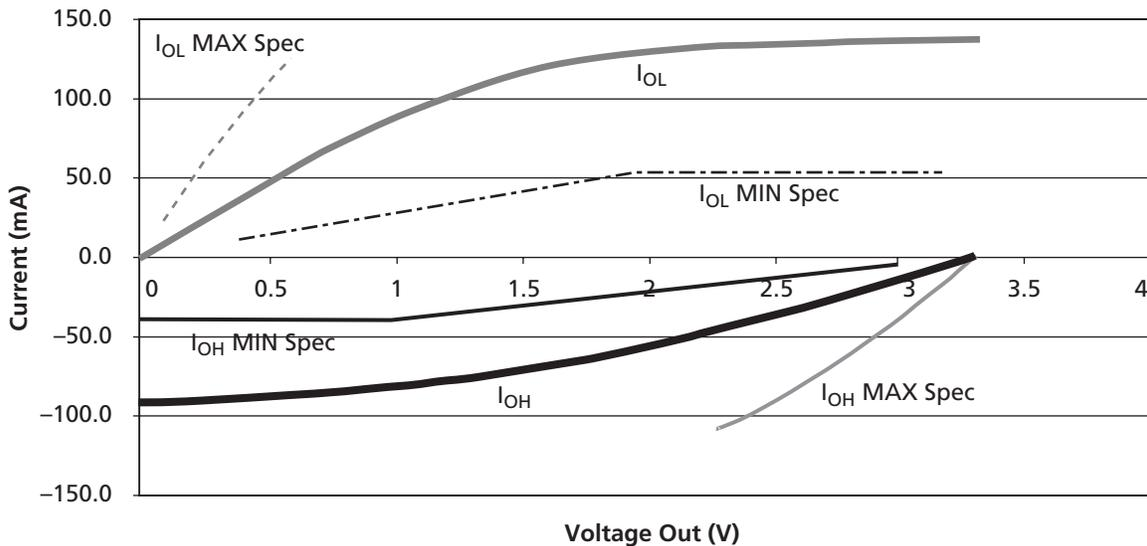

Figure 1-13 • 3.3 V PCI V-I Curve for HiRel SX-A Family
Figure 1-13 shows the 3.3 V PCI V-I curve and the minimum and maximum PCI drive characteristics of the HiRel SX-A family.
1. Refer to the V-I curves in Figure 1-13 on page 1-14. Switching current characteristics for REQ# and GNT# are permitted to be one-half of that specified here; i.e., half-size output drivers may be used on these signals. This specification does not apply to CLK and RST#, which are system outputs. "Switching Current High" specifications are not relevant to SERR#, INTA#, INTB#, INTC#, or INTD#, which are open drain outputs.